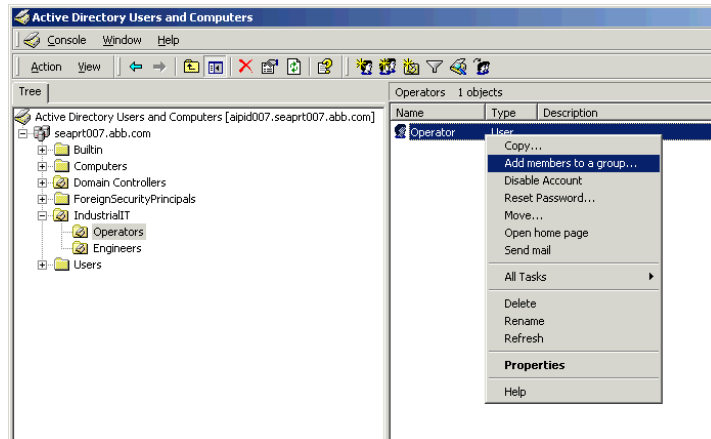

Figure 33. Add Member to Group
- a. Select **Operator** and open the context menu. Select **Add members to a group...**, see Figure 33.